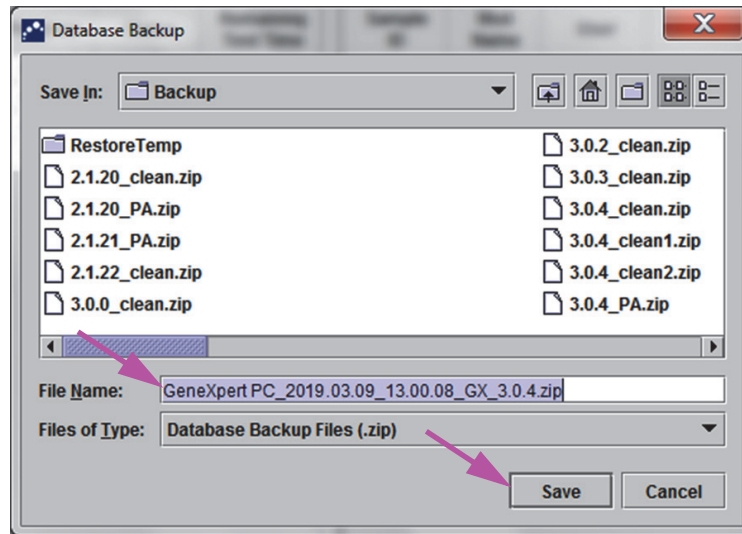

Figure 5-64. Backup File Naming
3. Locate and select the folder in which you want to store the backup file, type a name for the backup file (or use the default file name), and then click **Save**. The backup process creates a .zip file in the location you specified (see Figure 5-64).